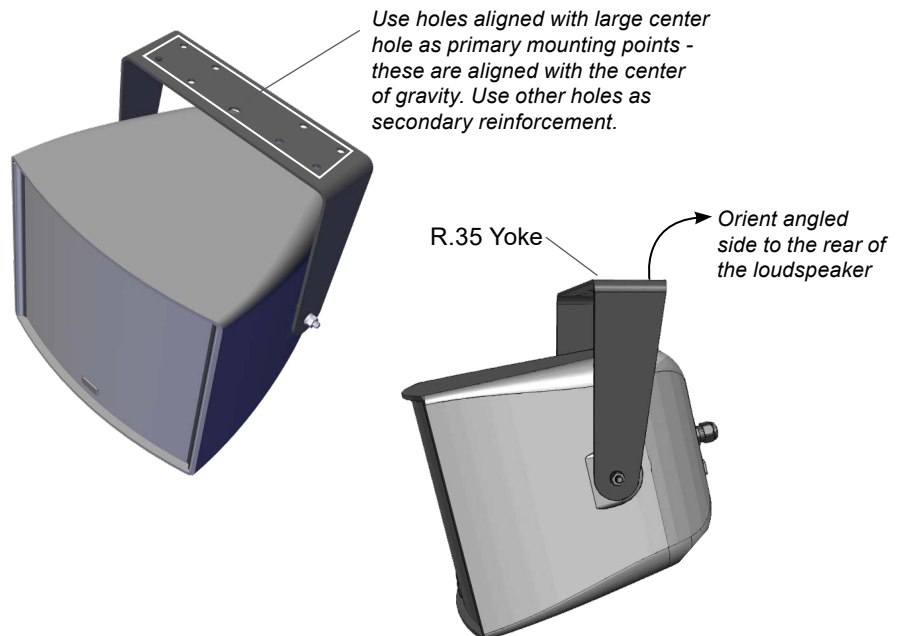

Figure 2. Orient the R.35 yoke correctly
**NOTES:** The wider angled portion of the yoke must be at the rear of the loudspeaker when mounted vertically, and toward the bottom of the enclosure in the horizontal position. See Figure 2 for yoke orientation. *Always use the holes in line with the larger center hole as the primary mounting points.*